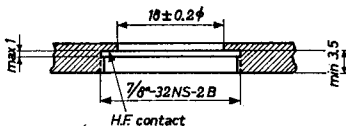

Fig. 2
- 1) The eccentricities are given with respect to the axis of the threaded hole (see fig.2) in which the tube is screwed firmly against the flange with inner diameter of 18 mm
- 4) The tolerance of the eccentricity of the axis of the base is such, that this base fits into a hole with a diameter of 32.5 mm, provided this hole is correctly centred with respect to the axis of the threaded hole specified in fig.2
- 5) The tolerance of the eccentricity of the axis of the base flange is such, that this flange fits into a hole with a diameter of 33.5 mm, provided this hole is correctly centred with respect to the axis of the threaded hole specified in fig.2